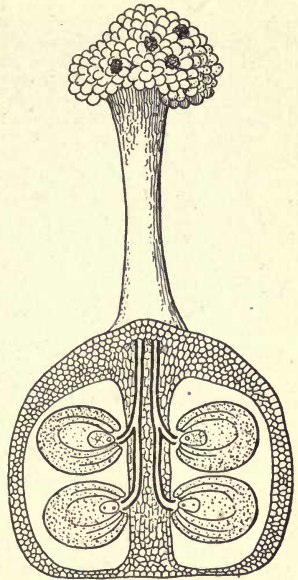

FIG. 279. — Fertilization of the Ovule.
**Fertilization.** — Each pollen grain consists of a particular cell called the **sperm cell**. When the pollen grains fall on the stigma, they are held by the sticky surface. They immediately begin to grow, forming tubelike roots which grow downward through the stigma and the style into the ovary, where they pierce the ovule and reach the egg cell. The sperm cell of the pollen meets the egg cell of the ovule and they unite to form a single cell, which grows and forms an embryo plant (Figure 279). The parent plant stores food around this plant, with the result that fruits and seeds are formed. The fruits are simply